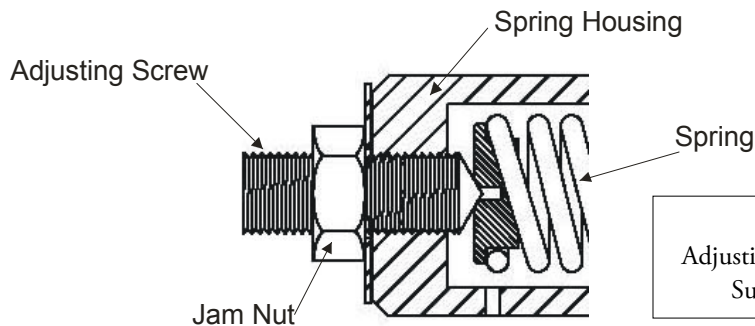

Figure 7
11. In a counterclockwise direction, back off the adjusting screw on the regulator subassembly (Figure 7) so that the IHRA-4SS is closed (i.e., no setting or tension on the spring).